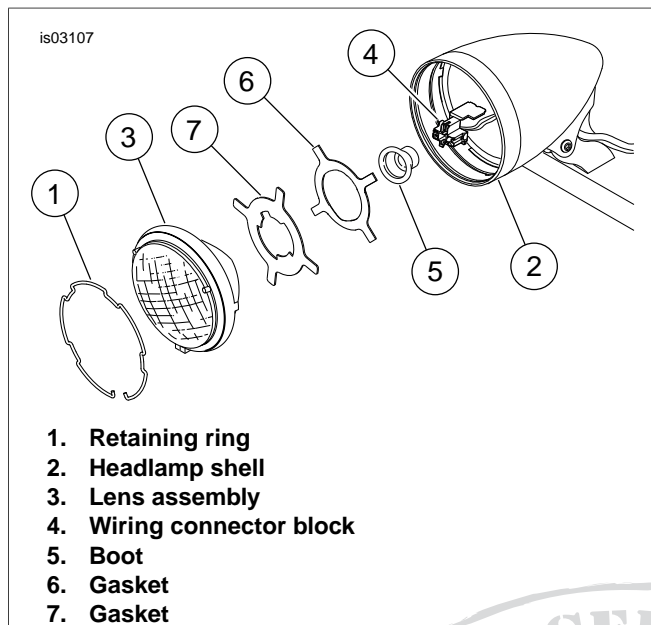

Figure 14. Remove Lens Assembly
7. See Figure 14. Using a needle nose pliers, remove retaining ring (1) from groove in headlamp shell (2).
8. Carefully pull lens assembly (3) out of headlamp shell, and disconnect wiring connector block (4) from bulb prongs.
9. Remove boot (5) and gasket (6), and gasket (7) from lens assembly.